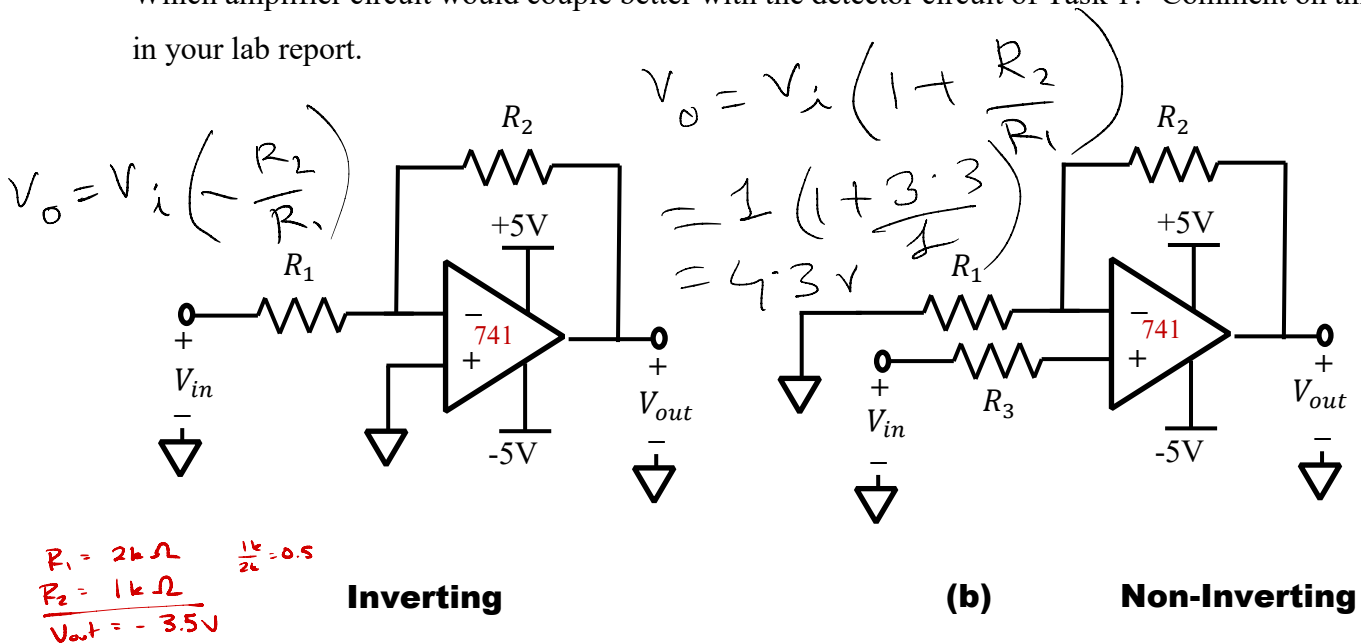

Figure 4.12 – Op-amp based amplifier circuits.
Before we send the detector output voltage to a comparator, it will be helpful to amplify this signal so that there is a substantial difference between the high voltage and the low voltage. Build the inverting amplifier circuit shown in Figure 4.12(a). You can use the $\pm 5V$ output on the PMD as the supply voltages. Choose your resistor values so that the circuit provides as much amplification as possible without danger of saturating. Remember, the output of the detector circuit from Task 1 will be the input to this amplifier. Which resistor values did you choose and why? Provide adequate reasoning in your lab report.
Now repeat this task for the non-inverting amplifier configuration shown in Figure 4.12(b). Again, you should justify the resistor values you have chosen and provide a plot of measured V_{out} vs. V_{in} .
- Provide a plot of measured V_{out} vs. V_{in} for both amplification circuits in Figure 4.12. Be sure to indicate what your saturation voltages are.